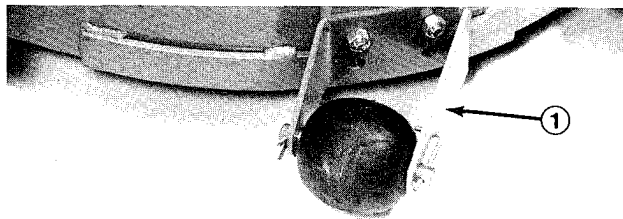

Figure 16
1. Remove nuts securing rear rollers to outside of cutting unit (Fig. 16).